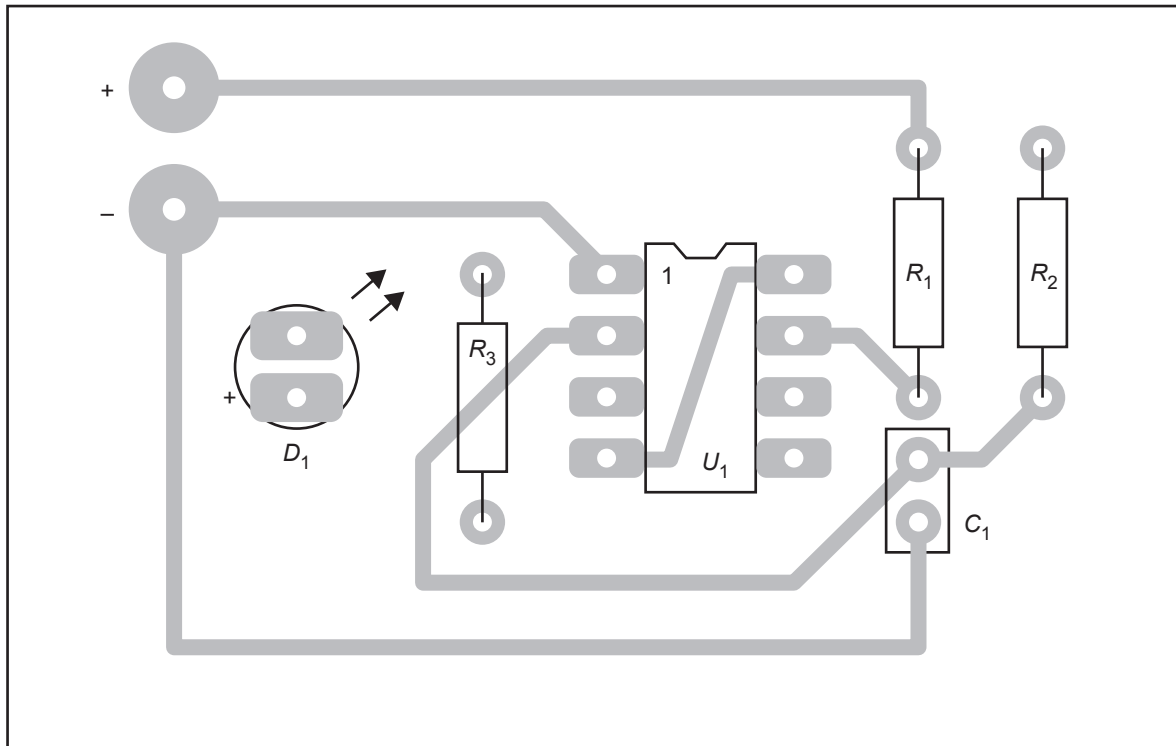

Figure 4
Figure 4 below shows incomplete printed circuit board (PCB) artwork for the oscillator, with six tracks missing from the artwork.
- a. On Figure 4, draw all of the missing PCB track connections for the correct operation of the circuit. 6 marks